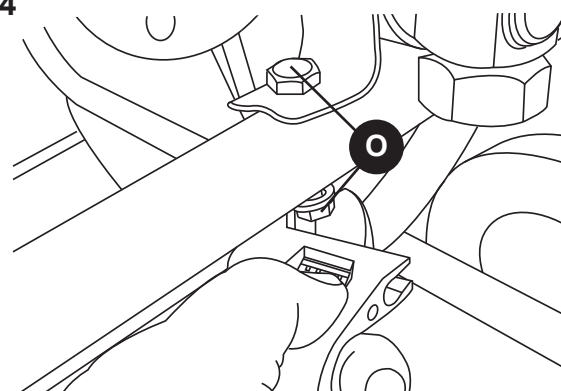

FIGURE 15
15. Tighten all four of the 40mm nuts and bolts (**O**) with open end or adjustable wrenches. **See Figure 15**